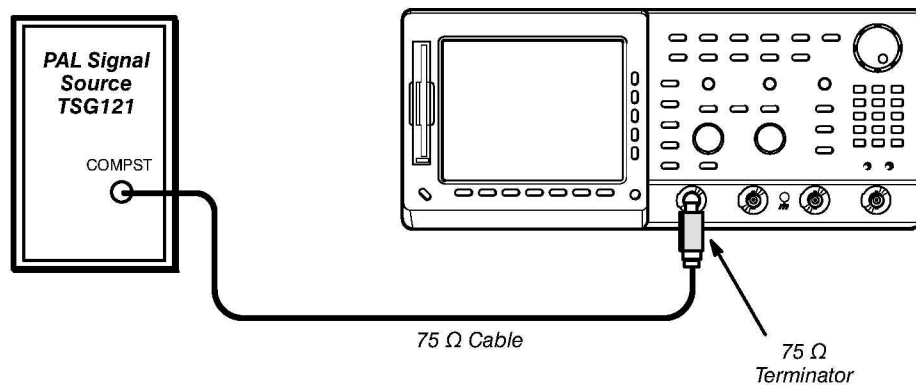

Figure 4-26: Jitter Test Hookup
a. Setup equipment for Jitter Test (see Figure 4-26).